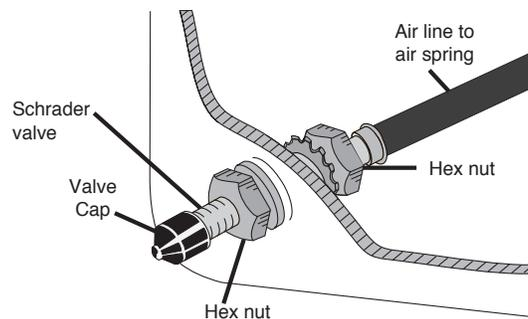

fig. 6
4. Place a 5/16" nut and star washer on the air valve. Leave enough of the inflation valve in front of the nut to extend through the hole and have room for the rubber washer, flat washer, and 5/16" nut and cap. There should be enough valve exposed after installation – approximately 1/2" – to easily apply a pressure gauge or an air chuck (Fig. 6).